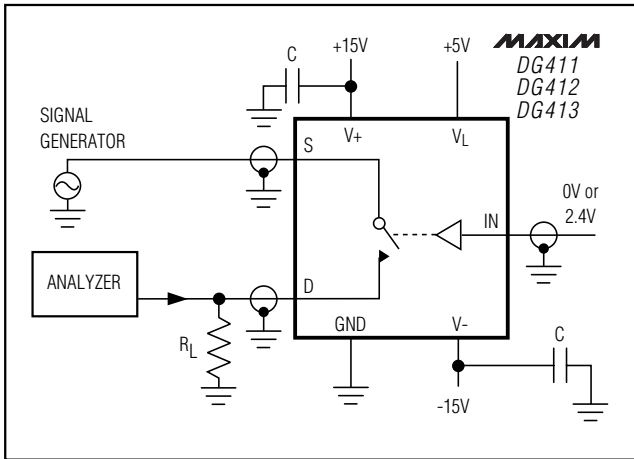

Figure 5. Off-Isolation
**Note 5:** Off Isolation = 20 log (VD/VS), VD = output, VS = input to off switch. See Figure 5.